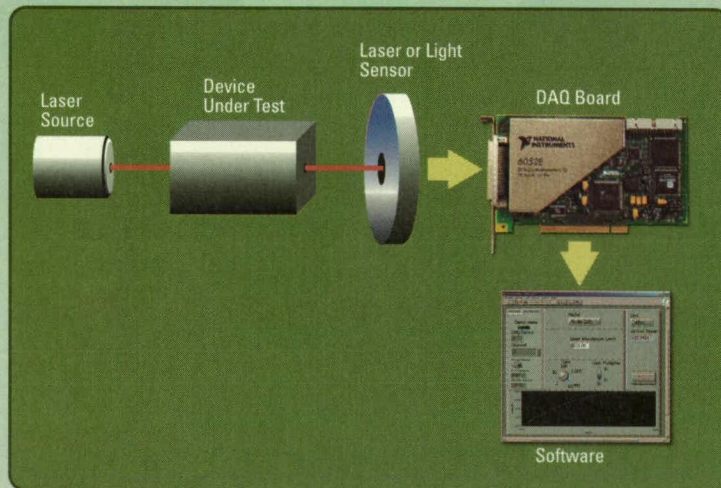

Figure 2. PC-based optical power measurement system using DAQ plug-in modules and LabVIEW.
the voltage returned by the sensor and converts it to an optical power response. Figure 2 illustrates a typical computer-based optical power measurement system. Both the voltage reading and the energy response are sensor-dependent and often depend on the wavelength being analyzed. The measures of power are generally expressed in watts (W) or decibel milliwatts (dBm), while tests application values, like insertion loss, are measured in decibels (dB).